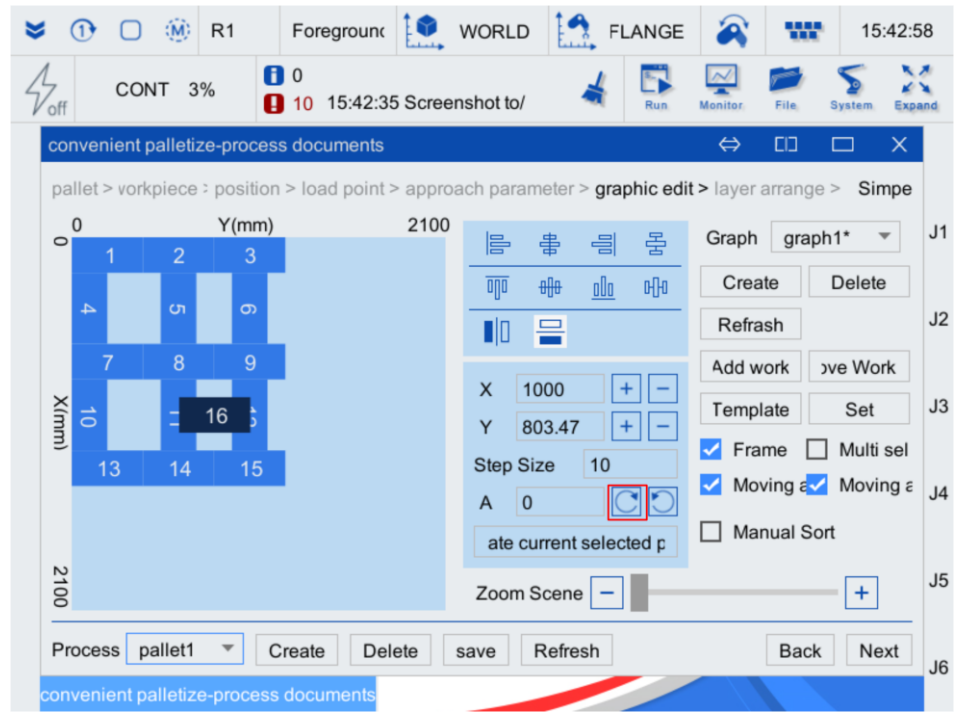

Figure 3-25 Diagram of workpiece dragging effect
- Step8. Drag workpiece 16 between workpiece 11 and workpiece 12. As shown in Figure 3-25.